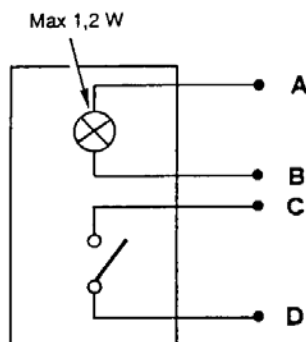

Fig. 1
The diagnosis procedure is carried out with the appropriate equipment in accordance with the diagram in Fig. 1 and is divided into two parts.
- Connect the connectors of the display as shown in fig. 1.
- Connect the connectors of the display apparatus as shown in Fig. 1.